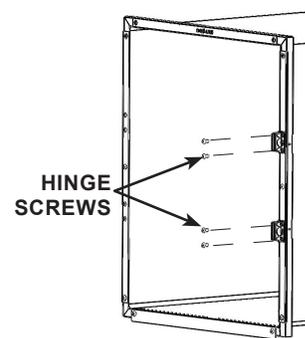

FIGURE 3.14- Hinge Assembly Installation
STEP 7: Install the hinge assemblies to the cage frame, tighten screws to secure the hinges to the frame. See FIGURE 3.14